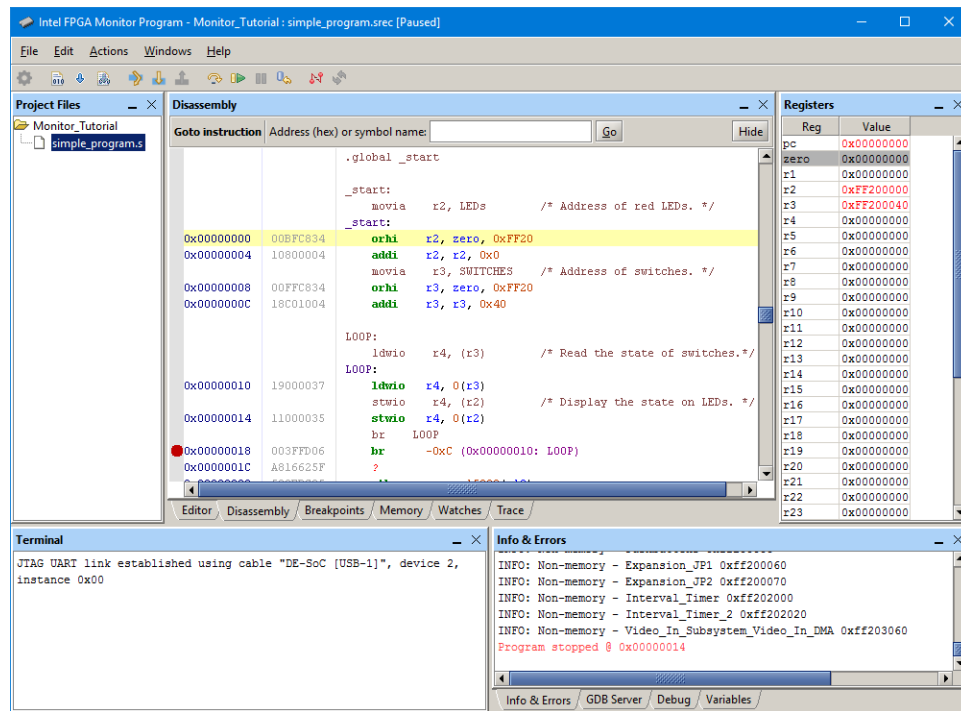

Figure 17. Setting a breakpoint.
2. Click on the gray bar to the left of the address 0x00000018. As illustrated in Figure 17, the Monitor Program displays a red dot next to the address to show that a breakpoint has been set. Clicking the same location again removes the breakpoint.